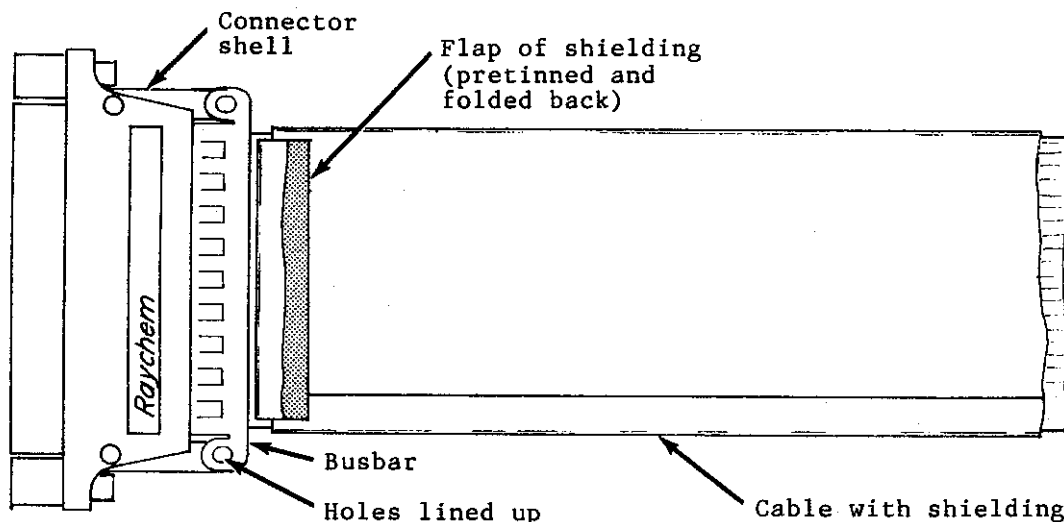

Figure 7-11. Busbar in Position for Soldering
10. Position a busbar over the rear of the shell so that the holes in the busbar ears line up with the cable clamp holes in the shell (Figure 7-11).